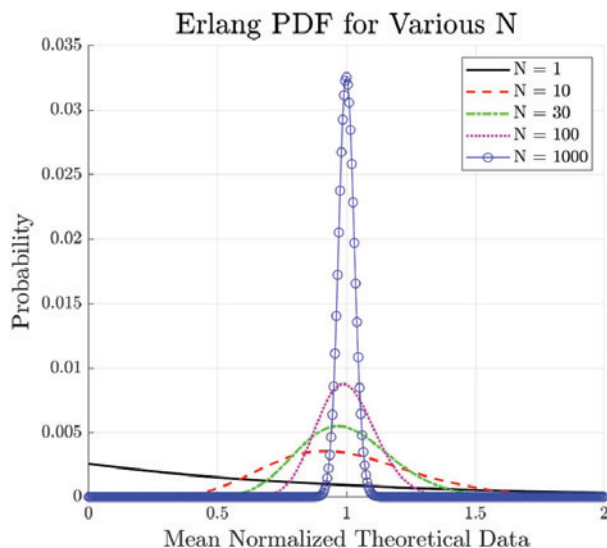

Figure 8: Theoretical mean normalized Erlang PDF for various N with the Erlang scale parameter set to 1.
For the $N = 30$ test case, it is interesting that both the exponential and MDE provide a good fit to the experimental data. The authors intuitively interpret this result from the following: for large N , the Erlang distribution converges to a Normal distribution by the Central Limit Theorem [20]. (In [11], the authors reach a similar conclusion for “the case of many apertures.”) Additionally, by the Law of Large Numbers, the variance of the Normal distribution approaches zero with increasing N [18, 20], or equivalently approaches a Dirac delta function (a constant) [24]. Figure 8 illustrates both the mean normalized Erlang distribution converging to a Normal distribution and the variance of the Normal distribution decreasing with increasing N for theoretical mean normalized data. Therefore, for large N , (4) approaches the product of a “constant” and the exponentially distributed random variable of the nested enclosure, or simply a scaled exponential distribution.